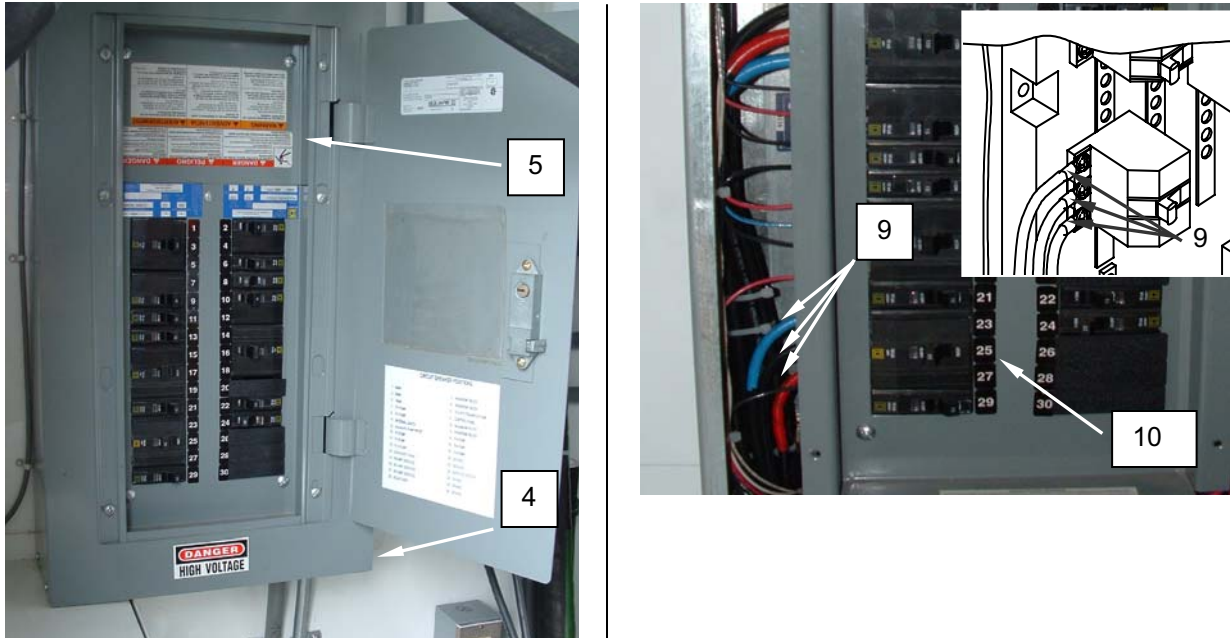

Figure 3. Replace the Power Output Receptacle.
3. Remove screws retaining the main circuit breaker box cover (**Figure 3, Item 4**) and remove the circuit breaker box cover.
4. Remove screws retaining the circuit breaker panel cover (**Figure 3, Item 5**) and remove the circuit breaker panel cover.
5. Tag and disconnect the wiring (**Figure 3, Item 9**) from the output circuit breaker (#23, 25, 27) (**Figure 3, Item 10**).